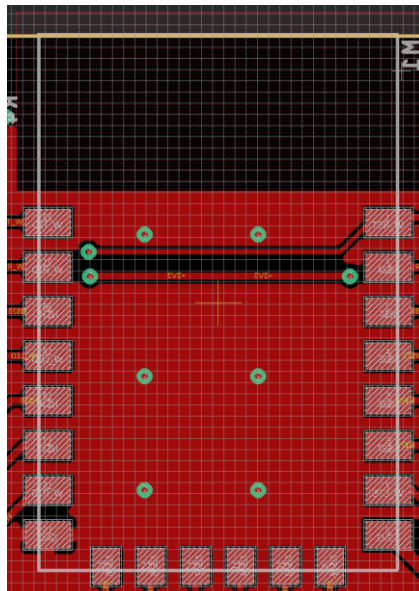
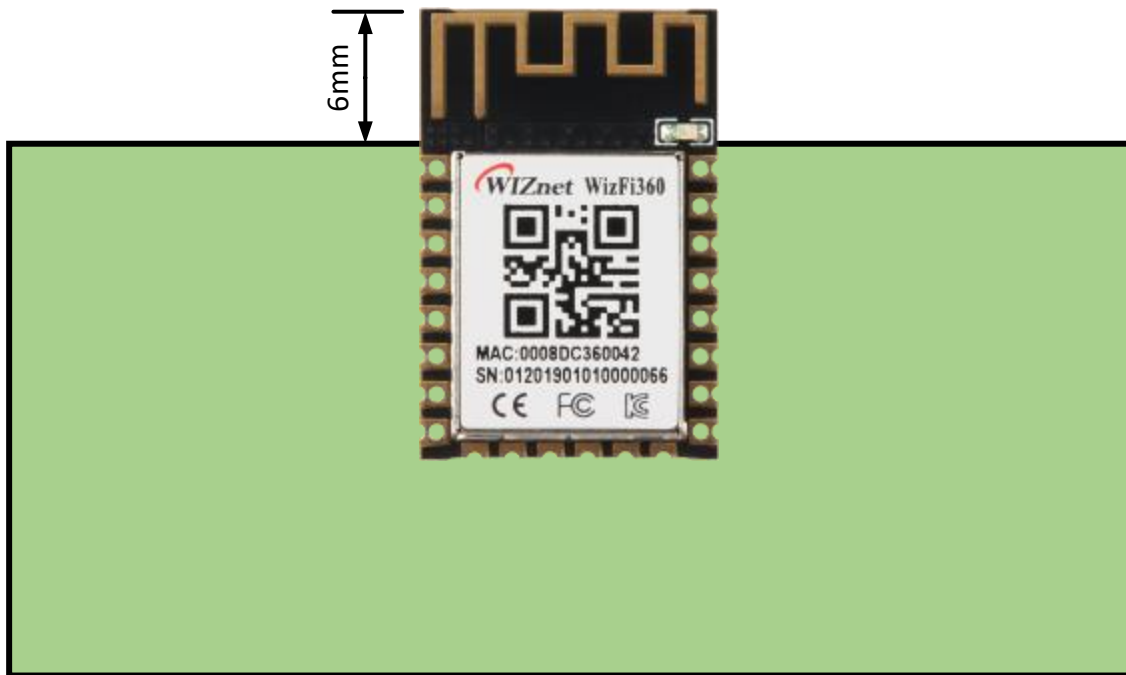

Figure 6. GND
Figure 7. Best Placement 1
- Figures. 6 and Figures. 7 are 2 antenna placement which can best performance of antenna. We suggest customers to choose one of these 2 modes to design the placement.